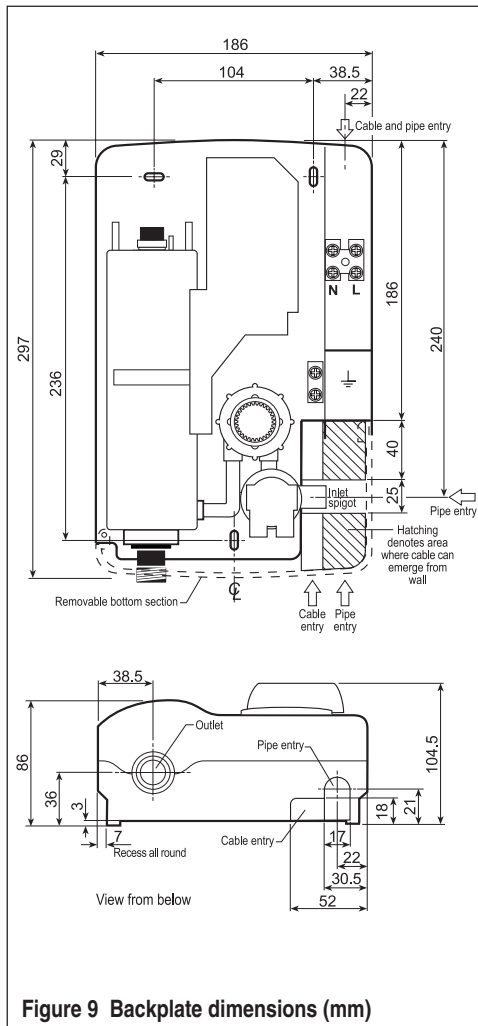

Figure 9 Backplate dimensions (mm)
3.9 Decide from which direction your inlet pipe will enter the shower heater. There is a choice of entry from top, bottom, right hand side or rear - see Fig. 9.
5.4 Decide which entry points you will use for cable and water pipe - see Fig. 9.
5.11 For rear entry, cable must emerge from the wall only in the areas specified in Fig. 9. You will need at least 280mm of cable to emerge from the wall to allow connection to the terminal block.